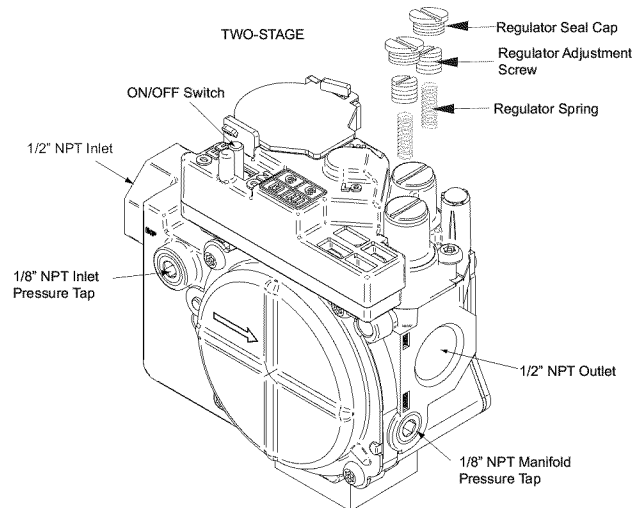

Fig. 24 - 2 Stage Gas valve
1. Refer to Fig. 24.
3. Remove caps that conceal adjustment screws for high-heat and low-heat stage gas valve regulators. (See Fig. 24.)
8. Turn high-heat stage adjusting screw clockwise (in) 12 full turns. This will increase the manifold pressure closer to the natural high-heat set point. (See Fig. 24.)
9. Turn low-heat stage adjusting screw clockwise (in) 9.5 full turns. This will increase the manifold pressure closer to the Propane low-heat set point. (See Fig. 24.)
3. Attach manometer to manifold pressure tap on gas valve. (See Fig. 24.)